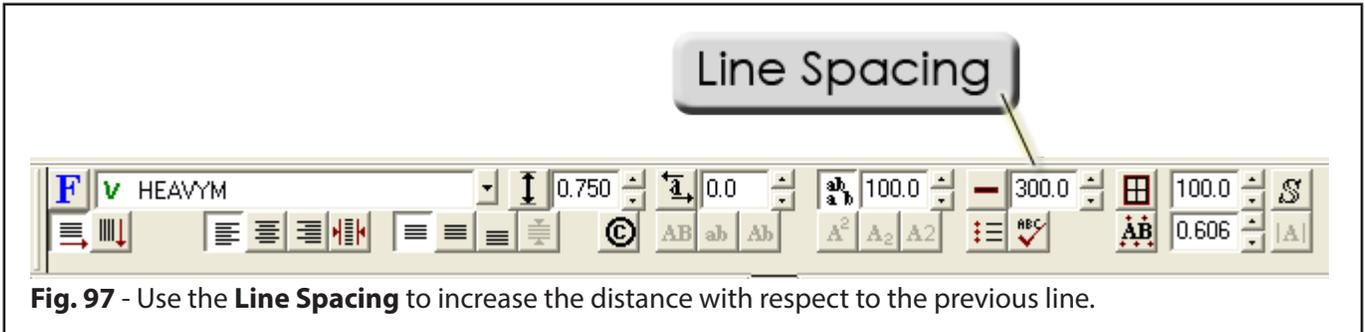

Fig. 97 - Use the **Line Spacing** to increase the distance with respect to the previous line.
3. From the SmartBar, set the **Line Spacing** to 300% (Fig. 97).